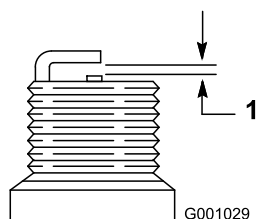

Figure 59
7. Set the gap between the electrodes on a new spark plug at 0.76 mm (0.030 inch) (Figure 59).